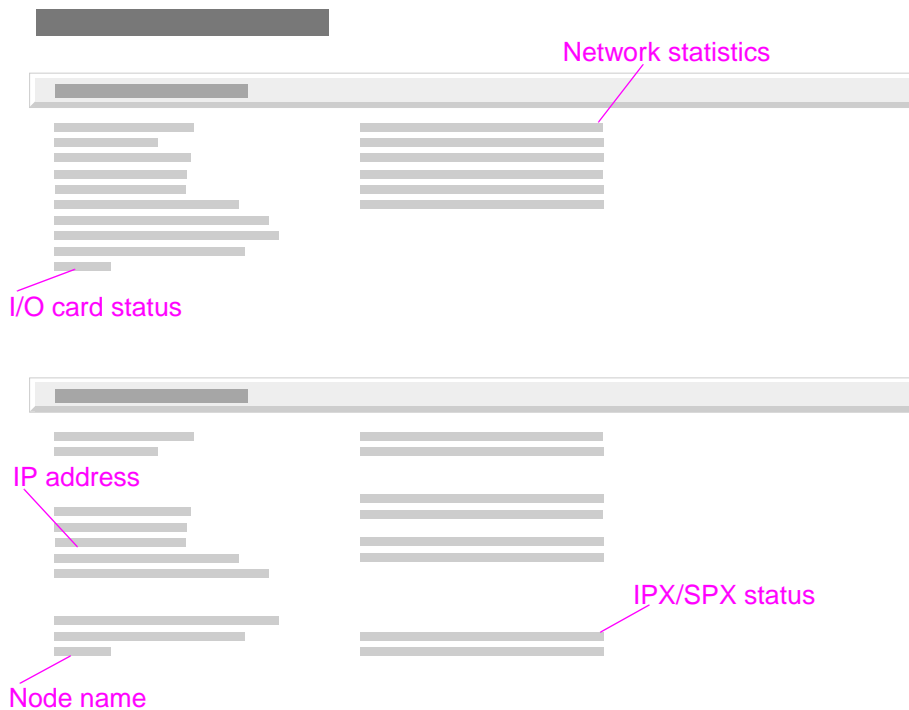

Figure 7-8 Sample JetDirect Configuration Page
The JetDirect Configuration Page shown in figure 7-8 on page 574 contains valuable information about the current status of the EIO accessories. Before attempting to troubleshoot a network problem or notifying your network consultant of a problem, always print a Configuration Page from the Control Panel's Information Menu. If an EIO accessory is installed, the JetDirect Configuration Page prints too.
- A “Novell Status” block should state the Novell printer server name to which the printer is connected. If the Node Name reads “NPIxxxxxx” (xxxxxx = last six digits of the EIO’s LAN address), the EIO card has not been configured for a Novell server (as in figure 7-8). This could indicate that the card is operating under an IPX protocol other than Novell. Consult with the network administrator if the Node Name is not present.